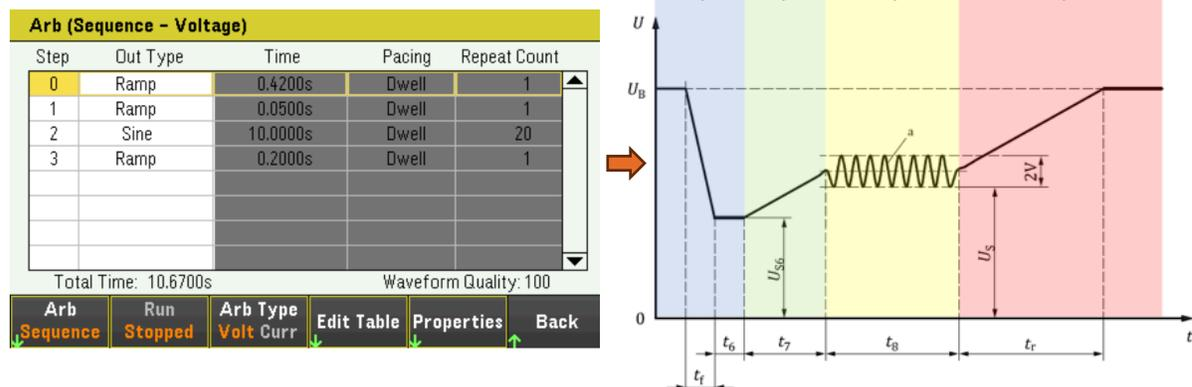

Figure 7. Arb sequence user interface showing segmented ISO waveform into Steps
- From **Meter View**, navigate to **Arb > Edit Table > Select waveform step > Edit**. The instrument will show you the **Arb (Sequence – Voltage)** interface with ISO waveform segmented into steps, as shown in Figure 7 below. Note that the default waveform configuration uses the Starting Profile waveform level 2 of Table 3.